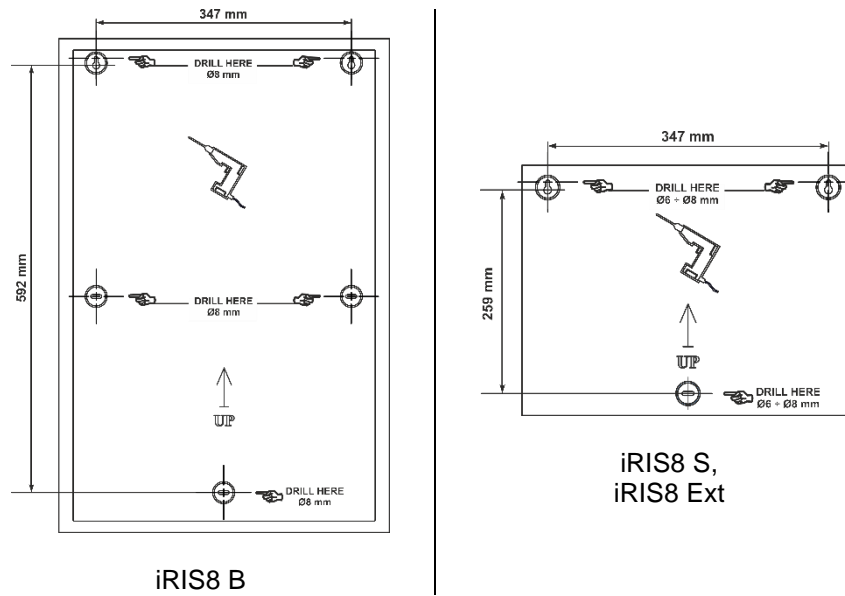

Figure 4
- For wall mounting, use the drilling paper template to mark the mounting holes – Figure 4.